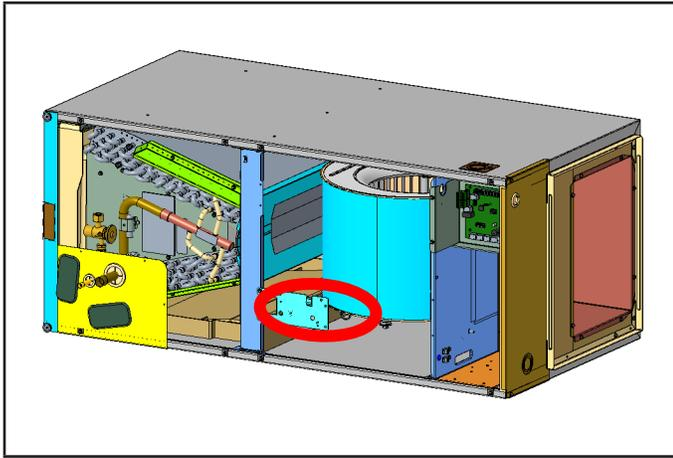

FIGURE 9
- 3 - With air handler unit panels removed, install sensor bracket assembly to the unit by lining up holes in the center support bracket as shown in FIGURE 9. Note: sensor should be facing toward the inside of the unit.